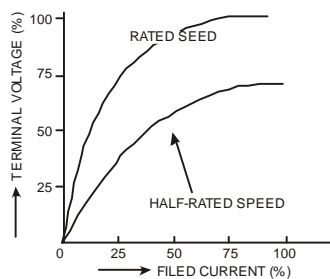

Fig. P8.3: Curve between I_f and V
1. The probable shape of curve is shown in fig. P8.3.